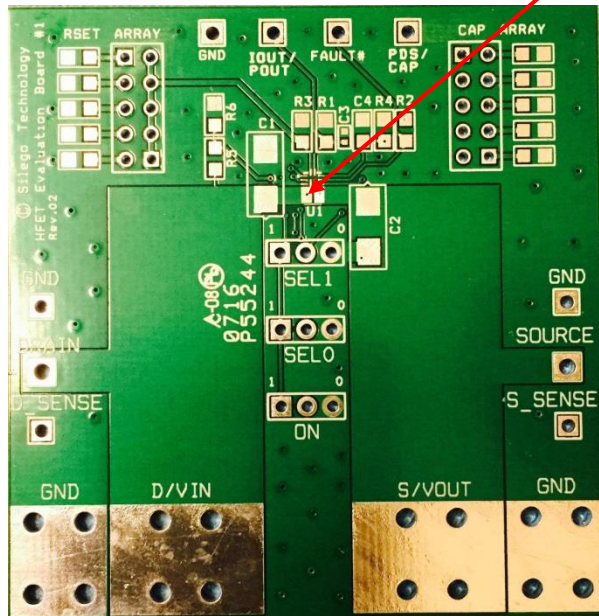
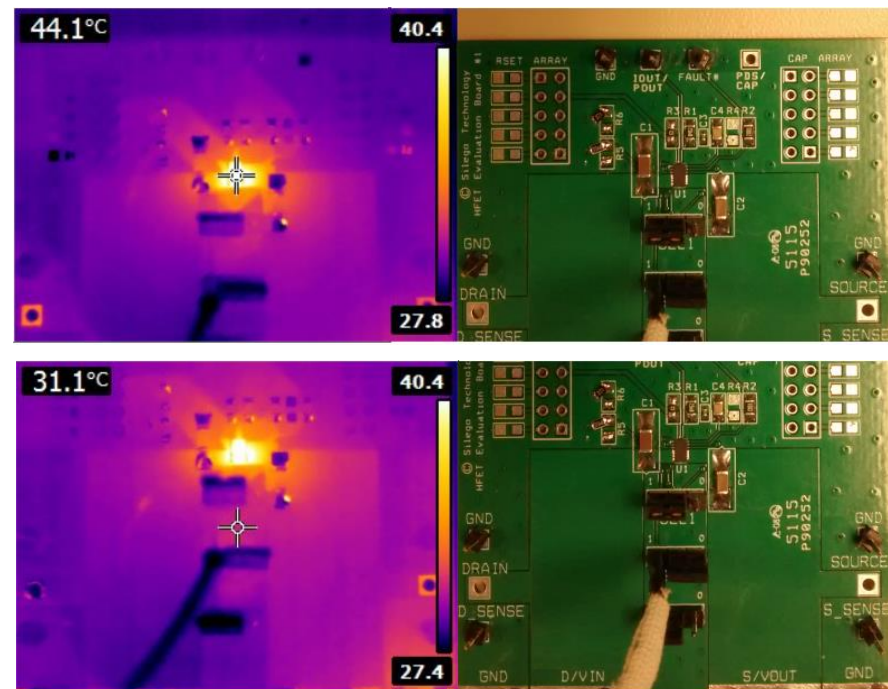

Figure 3. SLG59H1006V Evaluation Test Board
Figure 6. Thermal distribution for VIN = 20V @ 4.5A after 2 min power up
- 2.2. The VIN and VOUT pins carry significant current. Please note how the VIN and VOUT pads are placed directly on the power planes in Figure 3, which minimizes the RDS(ON) associated with long, narrow traces. The VIN and VOUT pins dissipate most of the heat generated during high-load current condition. The layout shown in Figure 3 is illustrating a proper solution for heat to transfer as efficiently as possible out of the device. Thermal distribution on the board with such solution is illustrated in Figure 6.